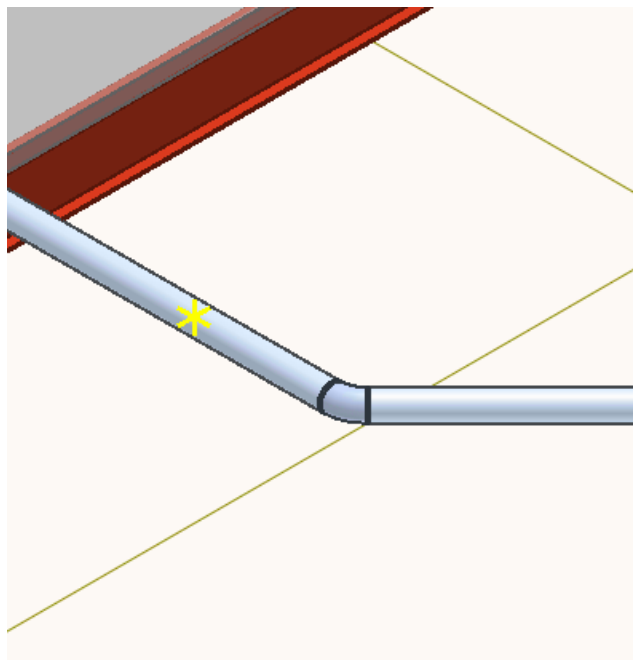

Figure 7: The position of the support along the pipe.
- 3- Select the position of the support along the pipe line as in in Figure 7.